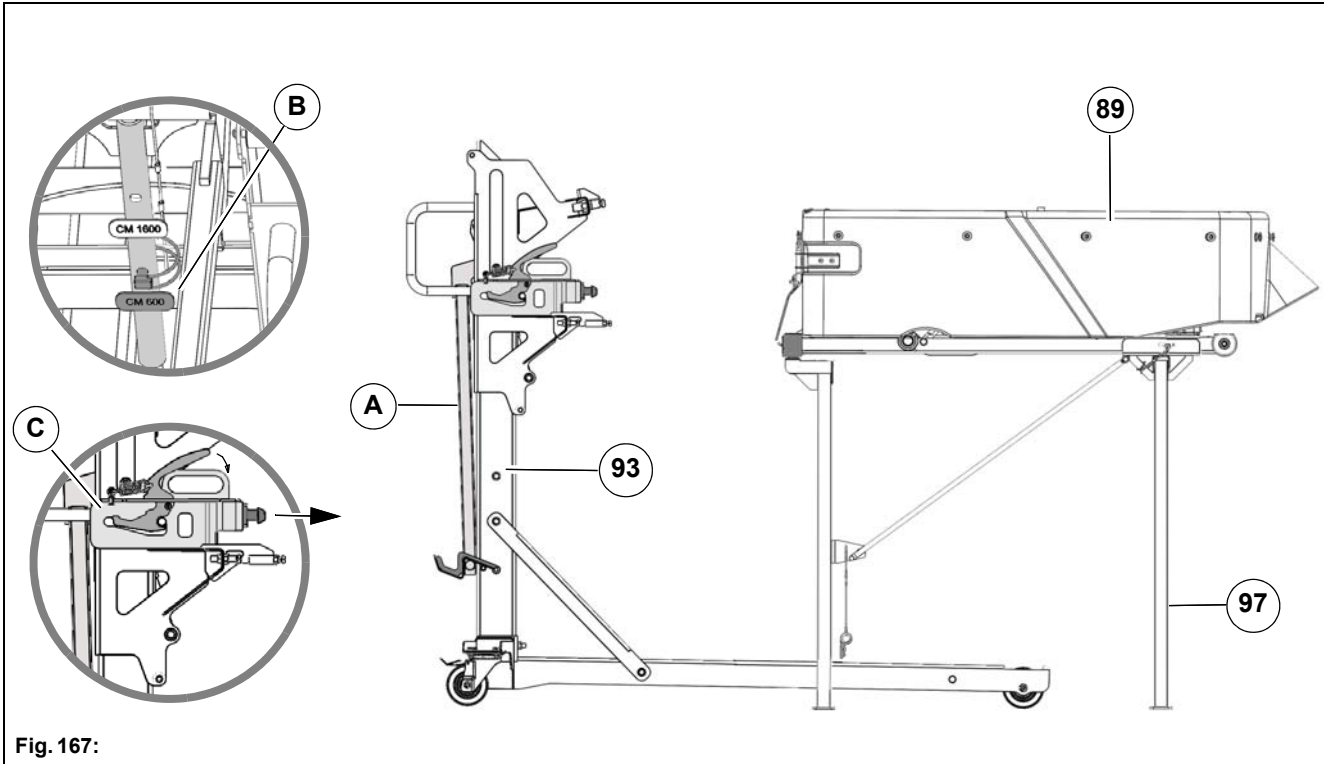

Fig. 167:
2. Unlock the lever **Fig. 167-A** of the trolley **Fig. 167-93** and swing it into the upper position.
3. Hold the lever **Fig. 167-A** in the upper position with one hand. With your other hand plug the mounting bolt **Fig. 167-B** on the Citymaster 600.
Danger Risk of injury! The lever Fig. 167-A can swing over.
4. Unlock the sledge **Fig. 167-C** with the lever and push it into the front position.